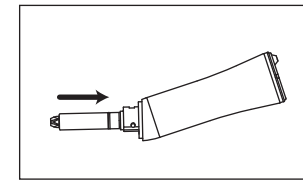

Fig. 9
- 1) Insert the drive shaft until it comes in contact with the shank. (Fig.9)